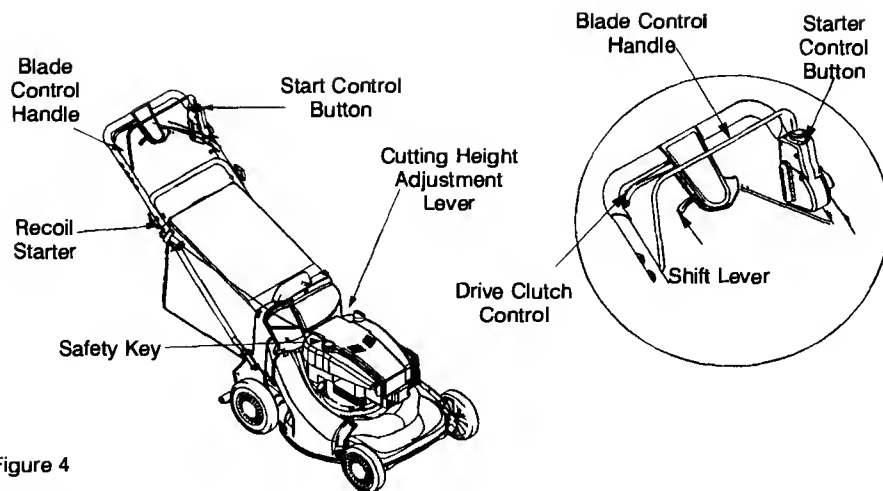

Figure 4
- The rope guide (pigs tail) is part of the grass catcher support rod attached to the lower handle. See Figure 3. With the **spark plug wire disconnected and grounded as instructed in the separate engine manual**, depress the starter control button fully with your thumb. See Figure 4.
The blade control handle is located on the upper handle of the mower. See Figure 4. The blade control handle and starter control button must be depressed in order to operate the unit. Release the blade control handle to stop the engine and blade and to energize the self starter.
The recoil starter handle is attached to the upper handle. See Figure 4. The recoil
The start control button is located on the upper left side of the handle. See Figure 4. The start control button must be depressed fully while pulling the blade control handle toward upper handle for the engine to start. The starter control button will automatically return to the off/ up position once the blade control handle is released.
The shift lever is located on the drive clutch control housing on the upper handle. See figure 4. This lever is used to select the forward speed of the mower. When changing your speed selection, release the drive clutch control.